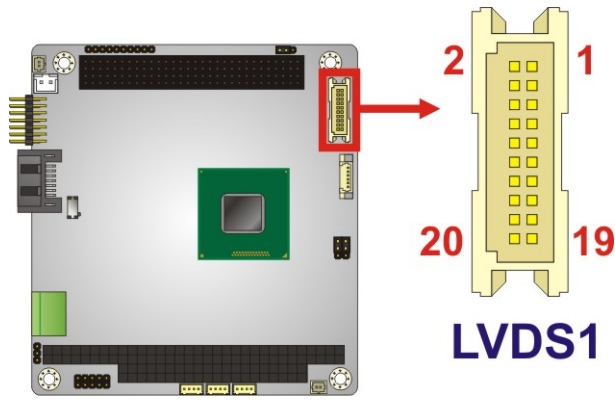

Figure 3-10: LVDS Connector Location
- CN Location:** See **Figure 3-10**